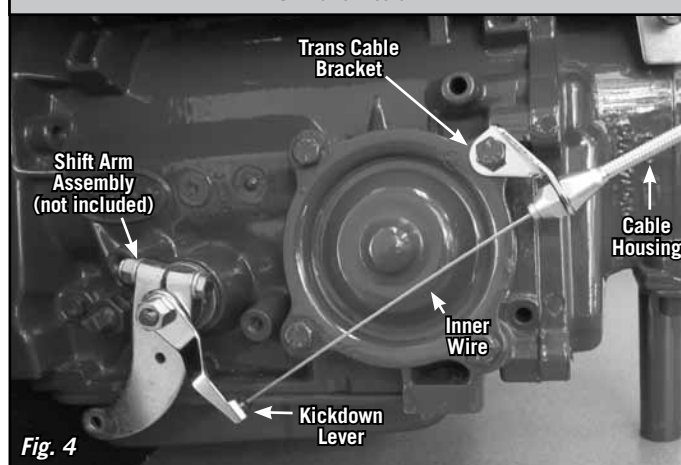
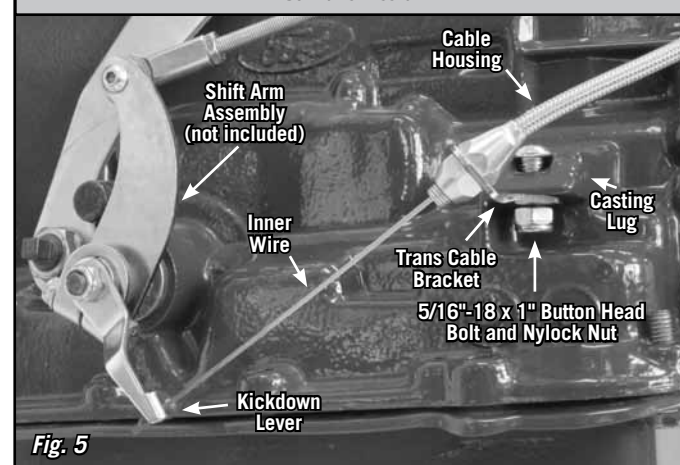
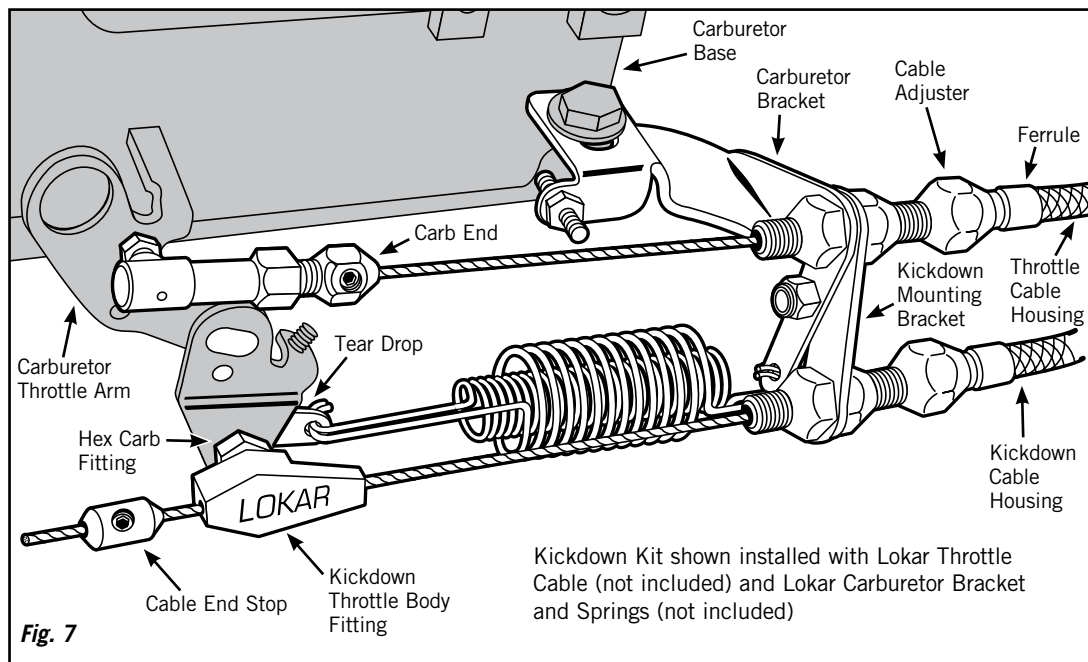

Fig. 4
Fig. 5
Fig. 7
Step 2: Install the kickdown lever onto the transmission, with the cable hole towards the transmission as shown in Fig. 4 for C4 and Fig. 5 for C6.
Step 3: Install the trans cable bracket and the cable housing onto the transmission as shown in Fig. 4 for C4 and Fig. 5 for C6. **NOTE: These photos show the inner wire, which SHOULD NOT be installed at this point.** C4 uses an existing transmission bolt. The C6 kit includes a 5/16"-18 x 1" button head bolt and locknut for the trans cable bracket. **NOTE:** On the C6 transmission, the cable mounting bracket goes *underneath* the casting lug on the side of the transmission.
Step 7: The tear drop will be attached to the carburetor throttle arm by the hex carb fitting. Separate the hex carb fitting from the kickdown throttle body fitting. Install the hex carb fitting and the tear drop onto the carburetor throttle arm as shown in Fig. 7. Hook the springs to the tear drop and tighten the hex carb fitting.
Final installation should look like Fig. 4 or 5 and Fig. 7.